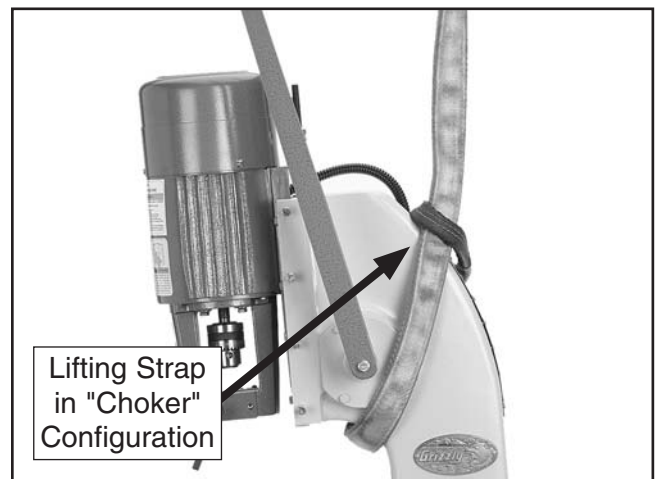

Figure 6. Lifting strap wrapped around the column in a "choker" configuration.
2. Wrap one end of the lifting strap around the column, as shown in **Figure 6**, pull the other end through the strap loop in a "choker" configuration, then attach the free end of the strap to the lifting equipment.